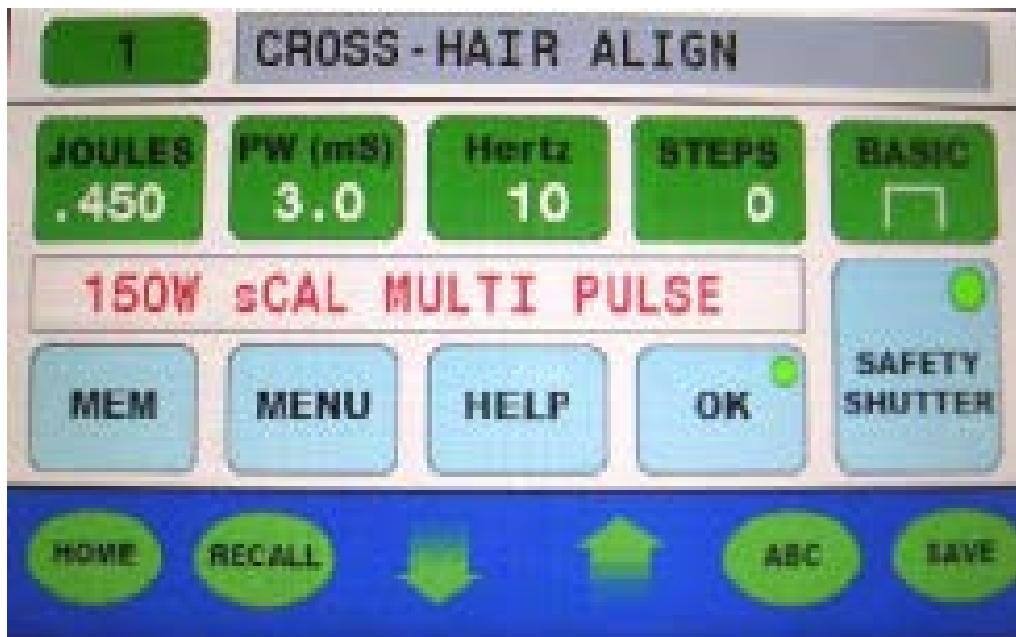

Figure 8
17. Select the **Joules button** from the **main menu**. Next, press the **up** or **down arrow** and enter either the first or second joules value (displayed in the table on **pages 206 or 208** (for correct values, be sure to reference your device's unique certificate or ID label). The laser is enabled and the display will read "150W sCAL MULTI PULSE" (**figure 8**).